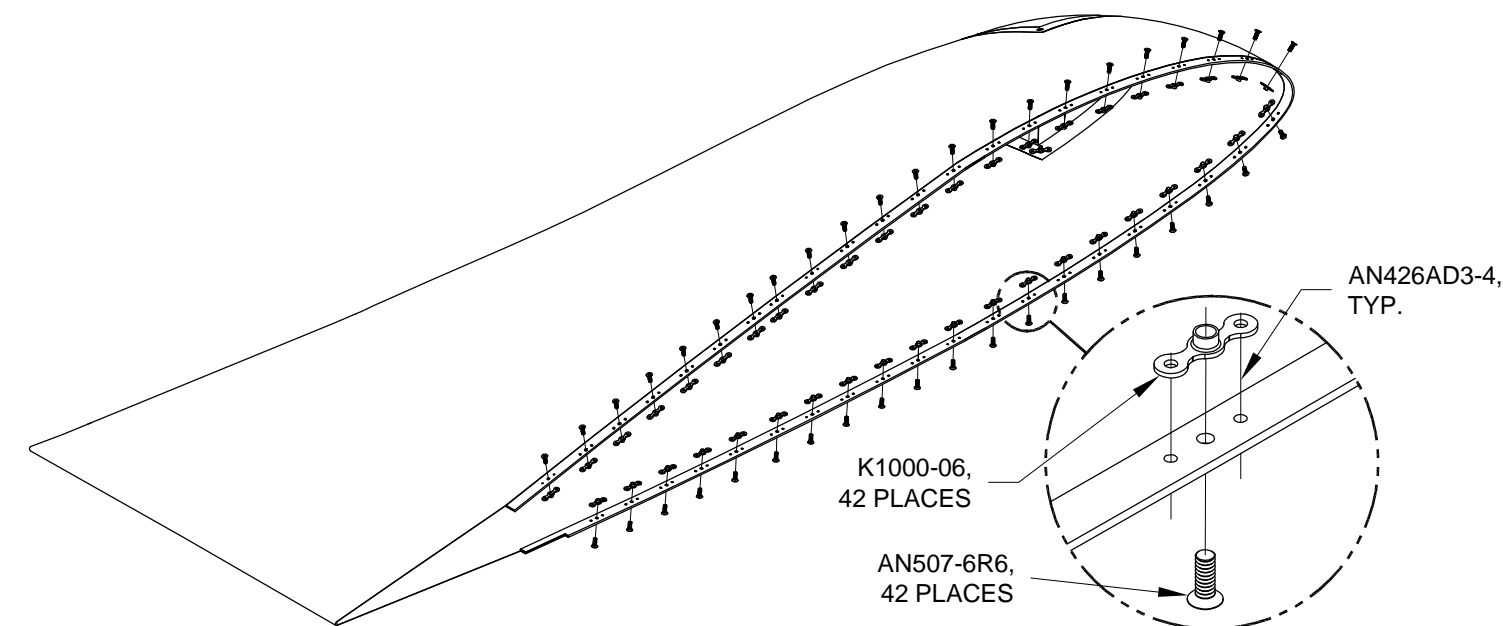

FIGURE 1: NUTPLATE ATTACH
Step 4: Final-Drill the screw attach holes in the W-1015-L Wing Tip to #28. Match-drill #40 the nutplate attach pattern into the W-1015-L Wing Tip using a nutplate as a drill guide. Use a screw to position the nutplate in each hole, this will keep the nutplates aligned and will minimize puckering of the wing skins between attach the fasteners when the wing tip is secured to the wing. Machine countersink the nutplate attach holes for the head of an AN426AD3 rivet. Rivet the nutplates to the wing tip as shown in Figure 1. Machine countersink the screw holes in the tip for the corresponding dimple in the wing skin.